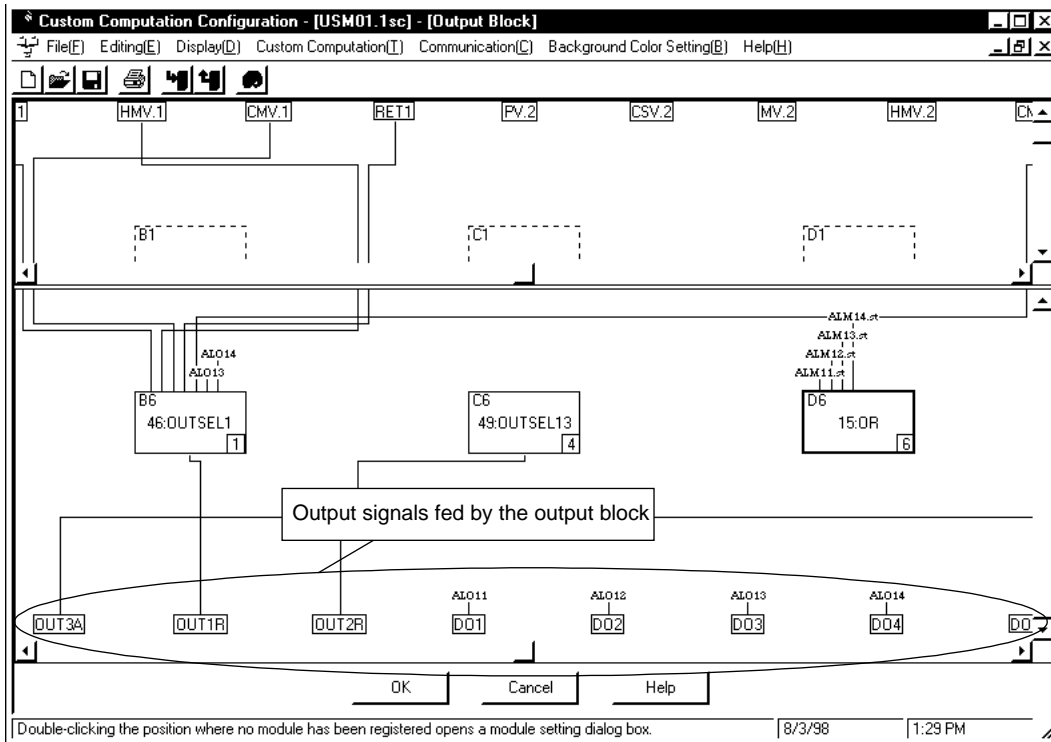

Figure 4.3.13 Output Signals Fed by the Output Block
- ① In the [Output Block] dialog box (Figure 4.3.13), click the appropriate output signal.